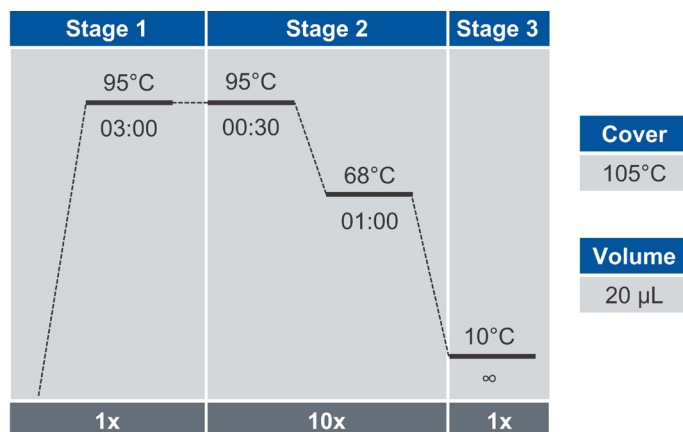

Figure 16. *Olink Index PCR2* program
- Click Open and select the program *Olink Index PCR2* (Figure 16). Click **Start**.